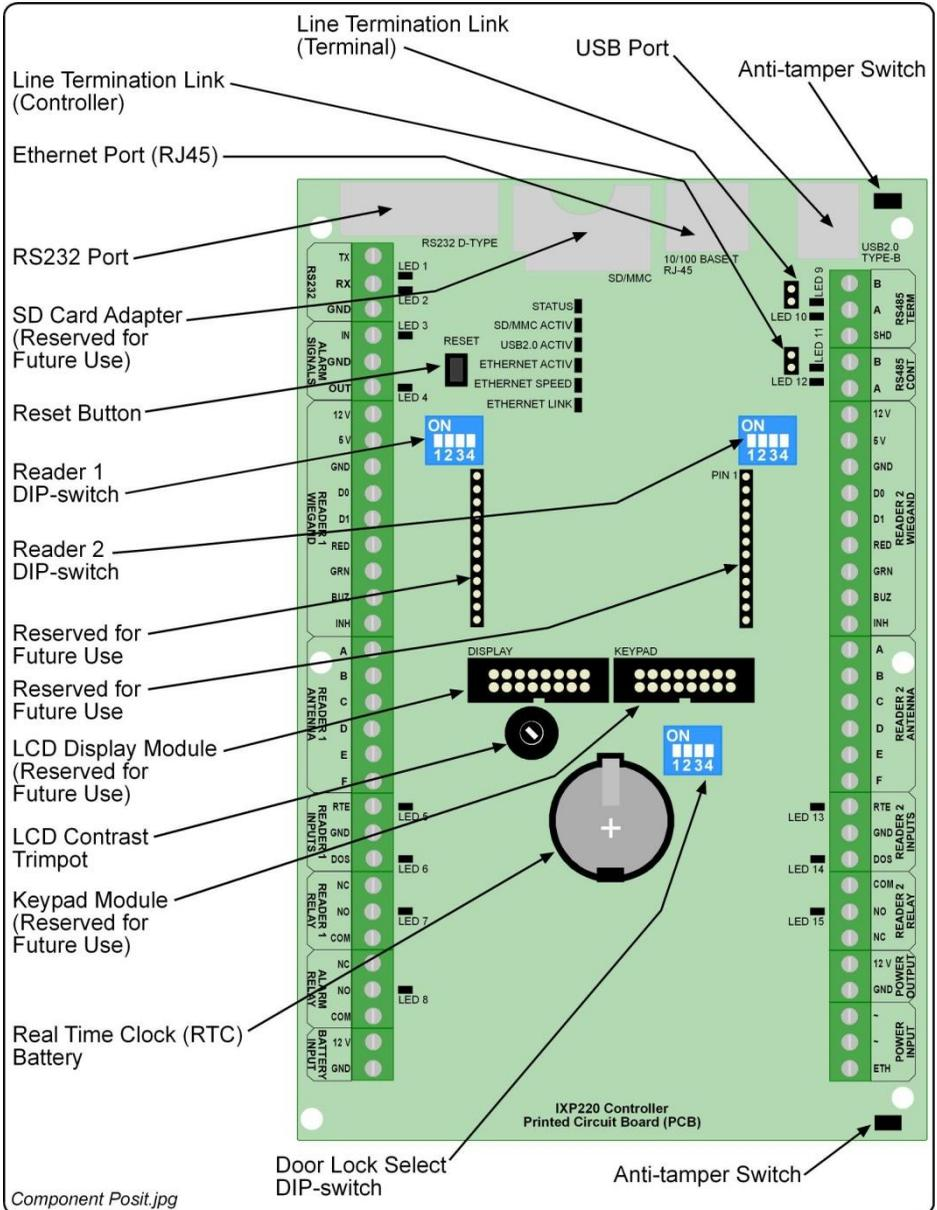

Figure 6: Key Component Positions
Long transmission lines or multiple “star” connections, may cause communication problems. Placing the Termination Resistor Jumper Link (see Figure 6) in the **LAST IXP220 CONTROLLER AT THE END OF THE CABLE RUN** should solve the problem (depending on the bus).
Refer to Figure 6 for the location of the Real Time Clock Backup Battery Holder.
Using a 2 mm flat screwdriver, adjust the Trimpot (See Figure 6 for location) as follows:
Restart the IXP220 Controller manually, without removing the power connections, by pressing the Reset button (See Figure 6 for location).
3. Press the **Reset** button (See Figure 6 for details). Alternatively, reset the Controller by removing and then reapplying the power source.